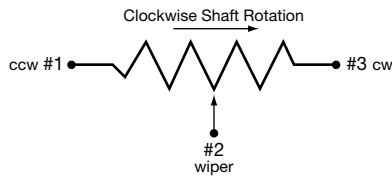

Figure 1
1. Terminal Arrangement. When using trimmer potentiometers in circuit designs, be aware of the terminal arrangement, and in which rotational direction the shaft or rotor is turned to increase or decrease the resistance. As shown in Figure 1, turning the shaft or rotor clockwise will increase the resistance between the #1 and #2 terminals.